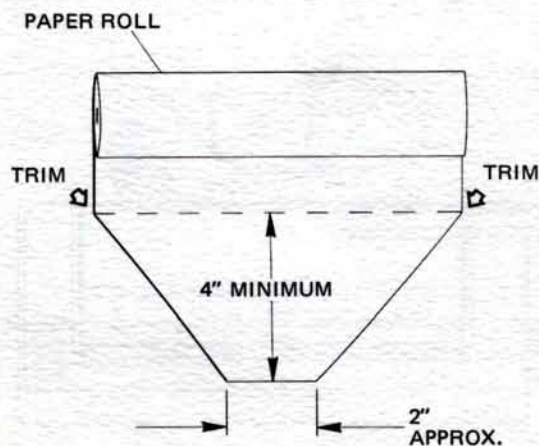

Figure 2-2 Trim Paper Roll
1. If the new paper roll has adhesive or tape on the end, trim this off. Then trim the end of the paper using scissors, or tear it off against a straight edge, as shown in Figure 2-2.